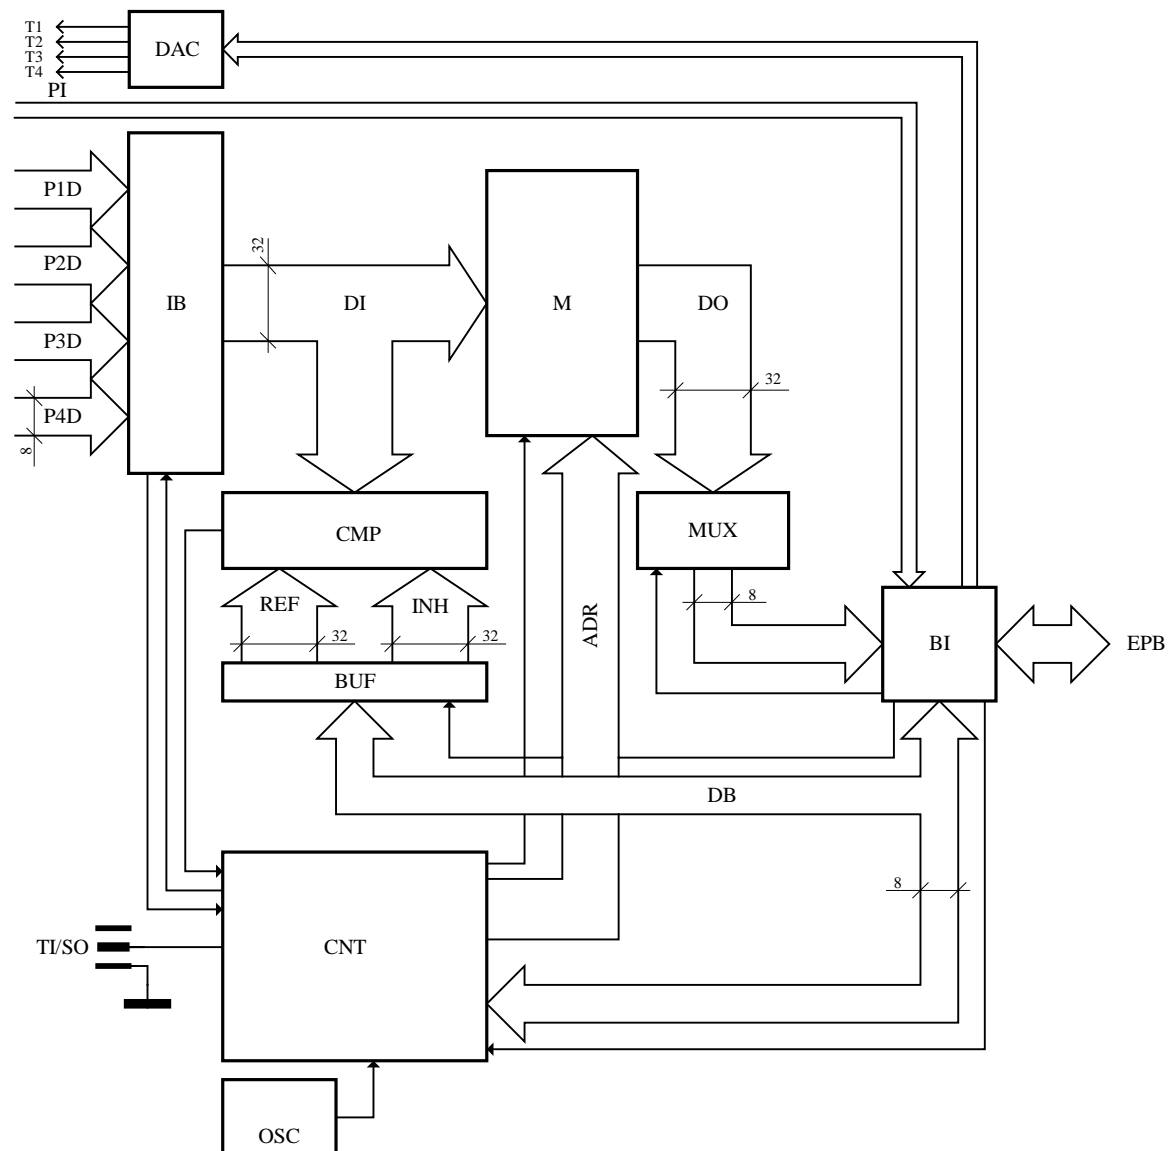

Fig. 2.1: Block scheme of the analyzer
The block scheme of the M611 Analyzer is shown in the figure 2.1. It is possible to connect up to four 8bit probes to the analyzer's inputs. The output data from these probes (P1D to P4D) are connected to input of buffer IB. The outputs of this buffer drive the inputs of the fast memory (M) and inputs of the comparator (CMP) which detects the trigger word of the analyzer. The comparator compares the data DI with a 32bit reference word (REF), while another 32bit word (INH) determines which bits are to be compared and which are not. Using the information from the comparator the CNT segment controls the data acquisition, generating control signals for the input buffer IB, address and control signals for the memory M.